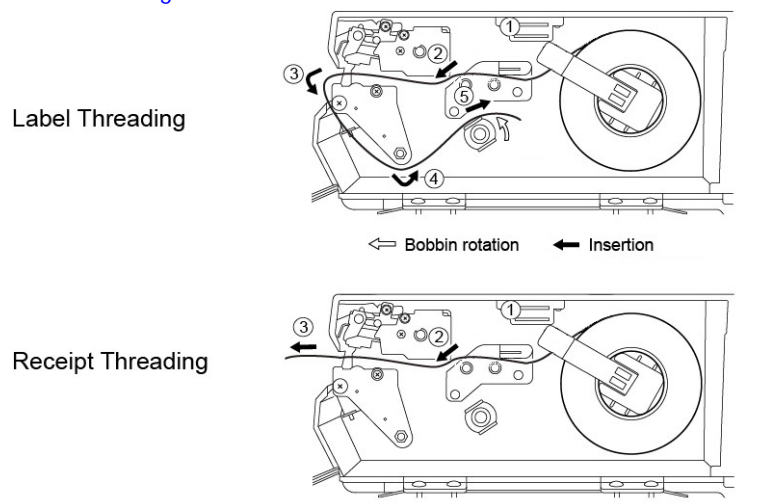

Figure 5-5. Thread Paper
- Thread the paper as shown in Figure 5-5